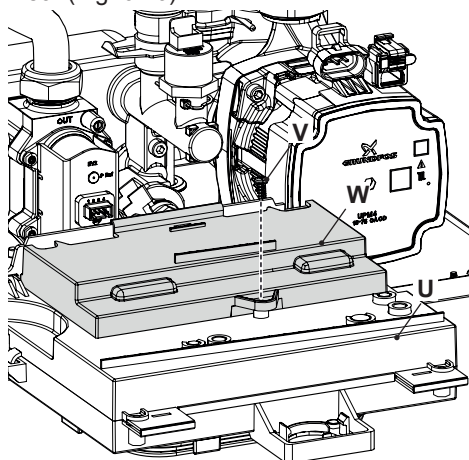

Fig. 6.16
- Turn the control panel "U", as shown in Fig. 6.16.
- Unscrew the screw "V" and lift the cover "W" to access the electric power supply terminal block, remote and external sensor (Fig. 6.16).